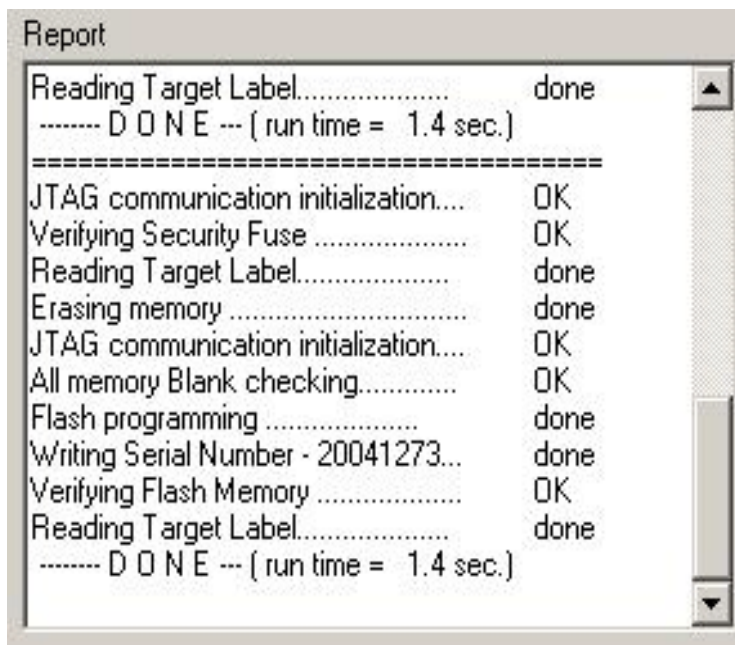
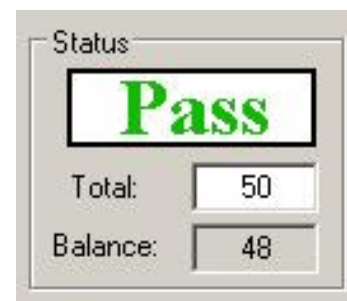

Figure 4.6-3
Figure 4.6-4
Progress of all actions is displayed in the report window. If the particular action has been finished successfully, then message 'done' or 'OK' will appear on the right side of processed procedure (Fig.4.6.3). If not, a message 'failed' will be displayed and selected action will be terminated. Final status is also displayed in the *Status* window (see Fig.4.6-4) as Active (blue), Pass (green), or Fail (red). On the bottom of the programmer dialogue screen the progress bar is displayed and the total run time is shown in the report window. Run time does not include the time when user interaction is required.
**Status** window (see fig. 4.6-4) has a counter that is useful in production process. The total number of programmed microcontrollers can be entered in the **Total** edit line. The **Balance** line shows the number of microcontrollers that have not been programmed yet. The Balance counter is initialized to the value entered in the **Total** edit line and is decremented every time *Auto Program* is completed successfully.